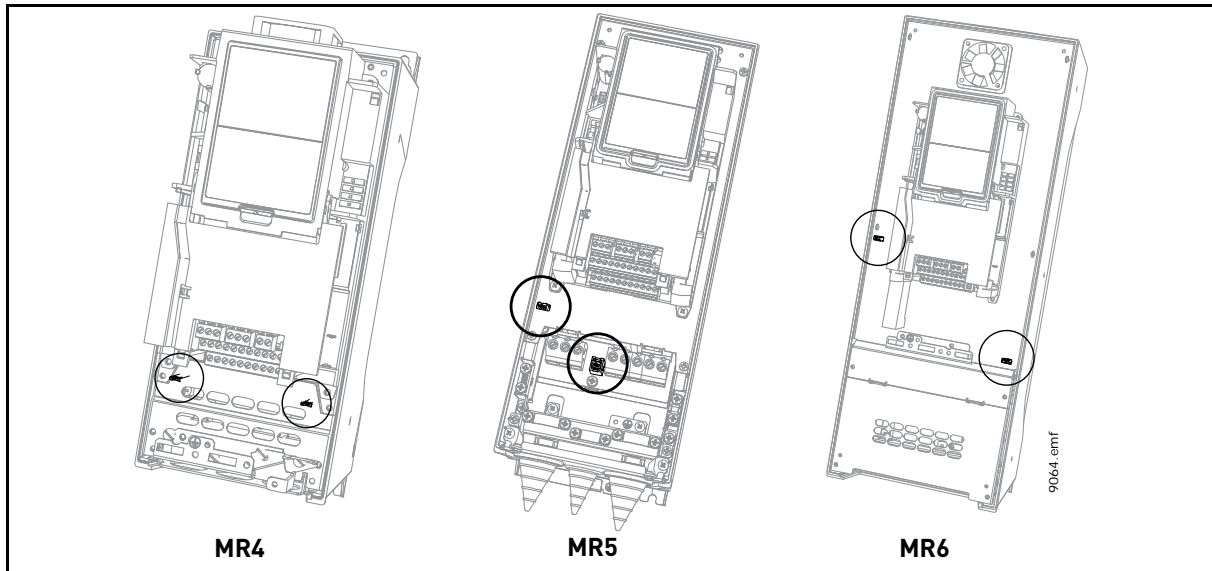
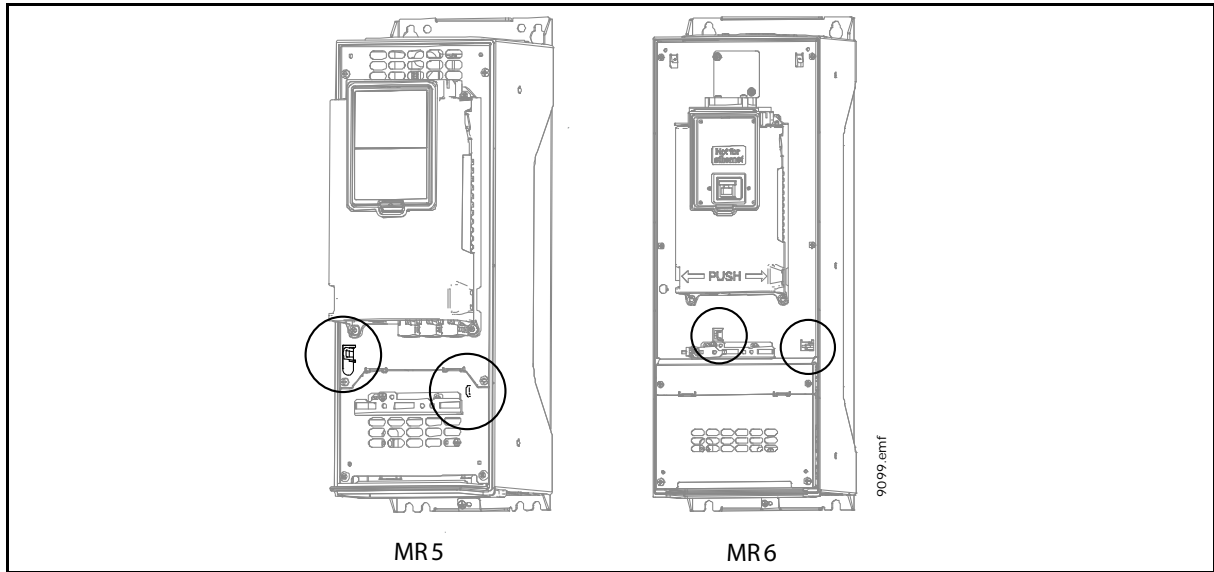

Figure 41. Current locations of the EMC-jumpers in frame MR4, old locations in frames MR5 and MR6
Figure 42. Current locations of the EMC-jumpers in frames MR5 and MR6
1	<p>Remove the main cover of the drive (see pages 28 and 34) and locate the jumpers connecting the built-in RFI-filters to ground. See Figure 41. and Figure 42.</p>
**NOTE:** The locations of the EMC-jumpers have changed in frames MR5 and MR6. Figure 41. shows the old locations and Figure 42. the new locations in frames MR5 and MR6.